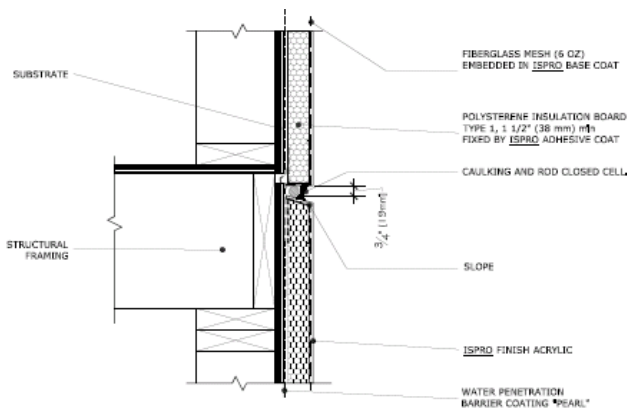

Fig 8. Horizontal Construction Joint detail
11.3 At floor levels of wood construction (Fig 8)
11.4 Also at floor level of other types of construction substrate when excessive movement may occur (always verify with professionals of the projects) (Fig 8)